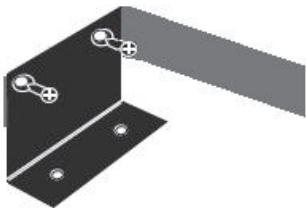

Fig. 1
- Fix the brackets into the end of the hole (see Fig. 1) using the woodscrews provided